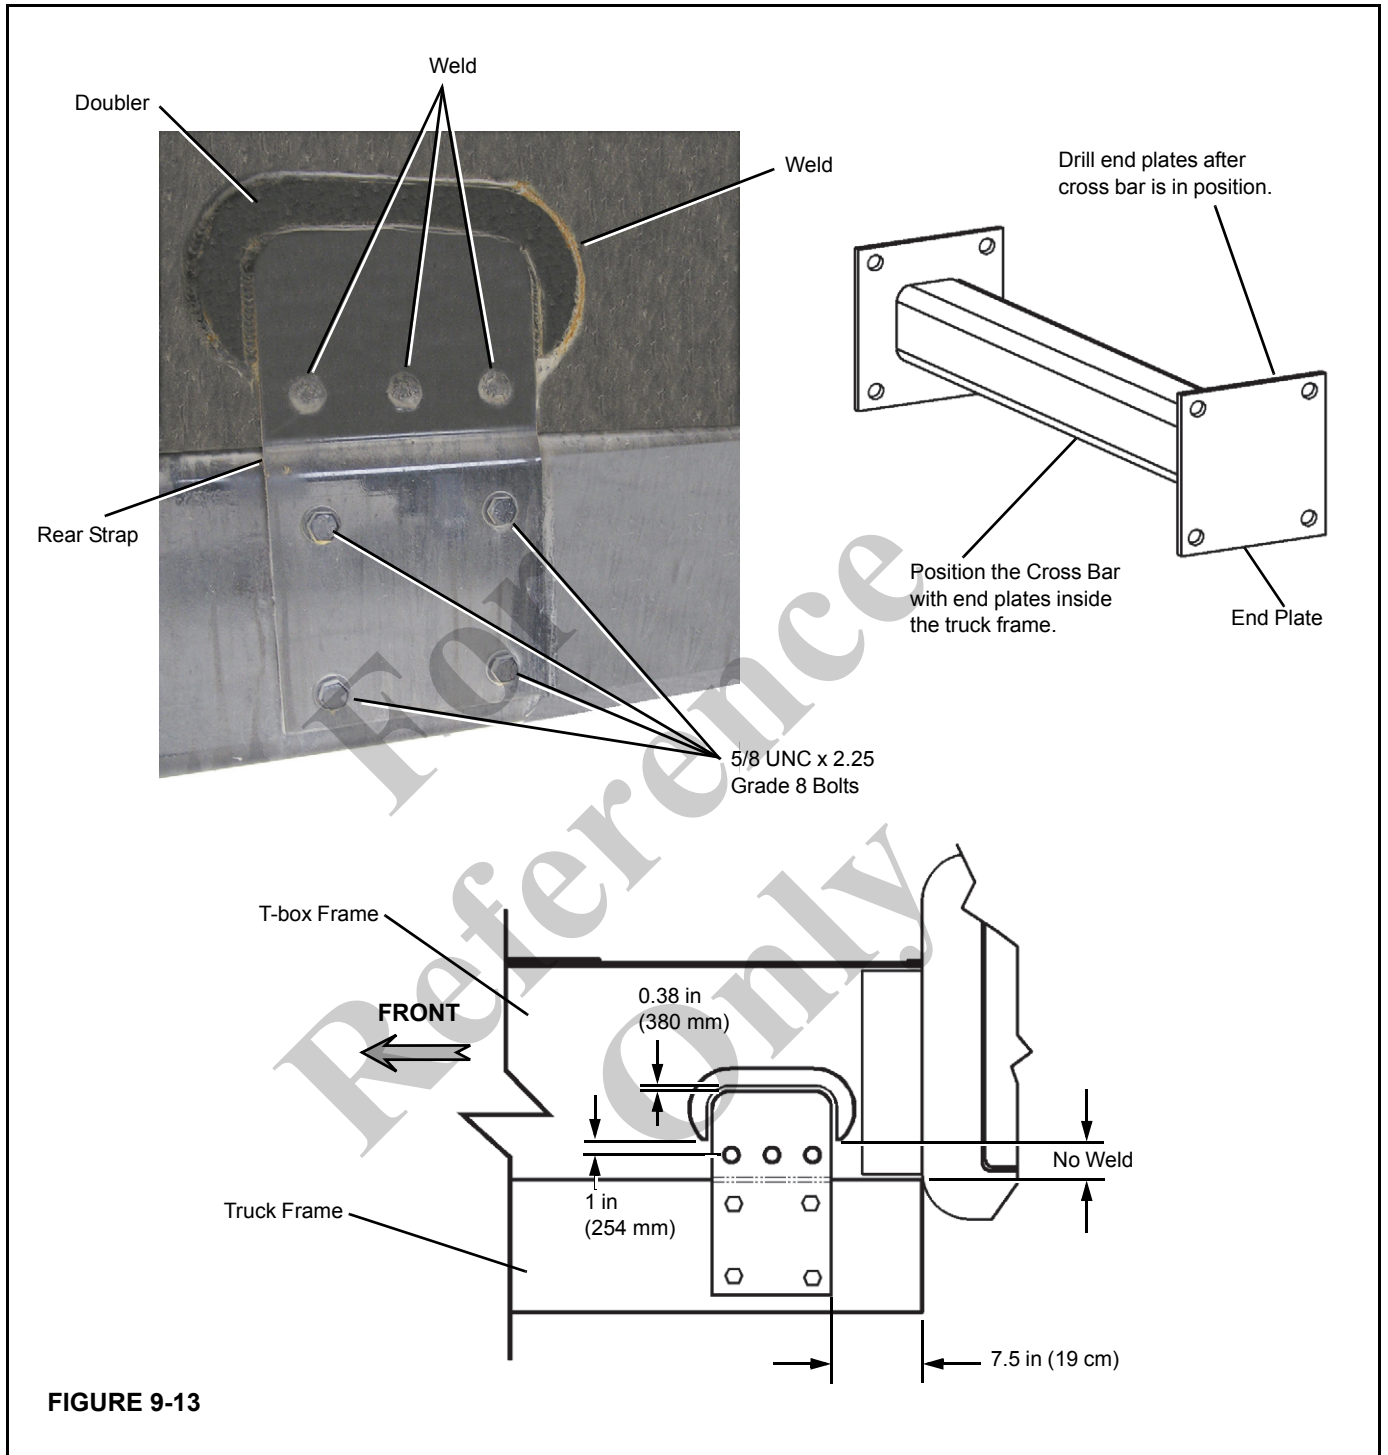

FIGURE 9-13
7. Locate and weld the rear strap to the T-box frame (Figure 9-13).
8. Cut the cross bar to fit (Figure 9-13) inside the truck frame with the end plate.
10. Clamp the cross bar in place and drill four bolt holes using the Lower Mounting Plate to locate the bolt holes in the cross bar (Figure 9-13).